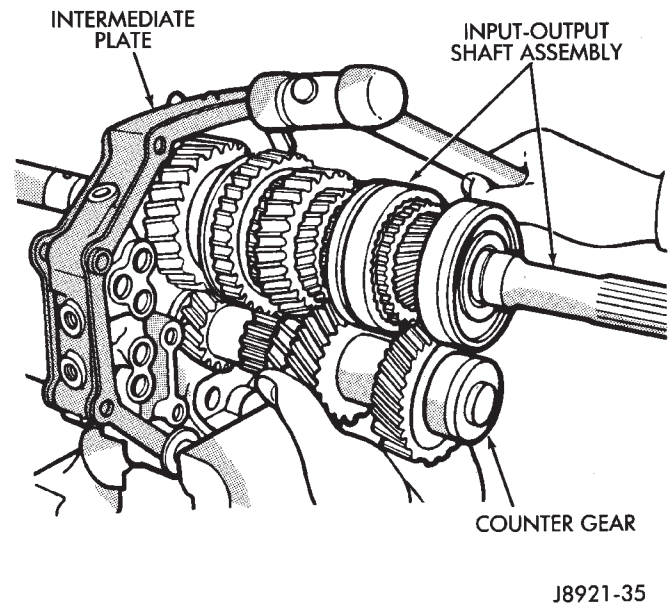

Fig. 27 Removing Counter Gear And Output Shaft
(9) Tap intermediate plate with plastic mallet and pull output shaft-counter gear assemblies out of plate (Fig. 27).